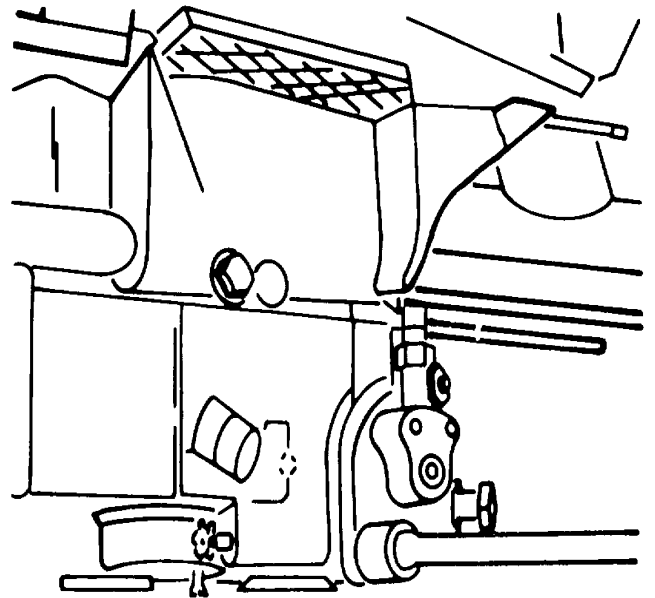

Figure A-21. Injection Pump
p. Injection Pump. With the 13mm socket, remove both the injection pump hex nuts. Pull the injection pump from the gear cover. Leaving the injection pump gasket and shims on the gear cover, reinstall the hex nuts and lockwasher on their studs. (Figure A-21.)